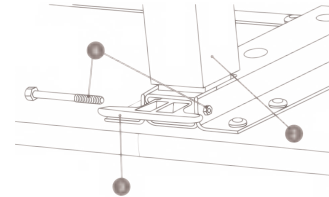

Figure 1
- Place the Table Top (1) on a level surface so the Mounting Bracket (5) faces up.
- Check the Column Assembly (2) to ensure the Release Rod (not shown) is completely inside and not protruding.
- With the curved side toward table top, insert Adjustment Lever (3) into opening at top of Column Assembly (2) making sure flat side of Adjustment Lever (3) rests on release Rod. (Fig 1)
- Align holes of Adjustment Lever (3), Column Assembly (2) and Mounting Bracket (5) and secure with 1/4 - 20 x 2 1/8" Bolt and Nut (4). (Fig. 1) Then, tighten the two Domed Phillips Head Screws (6) at top of Mounting Bracket (5).